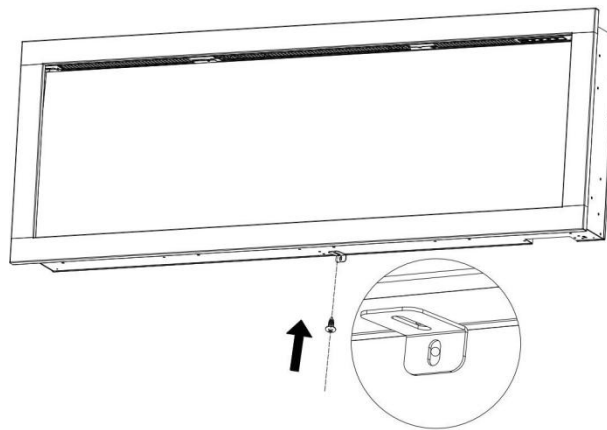

Fig. 4-2
- B. Using the screw previously removed, attach the L-bracket (supplied) to the bottom of the fireplace. (Fig. 4-2)